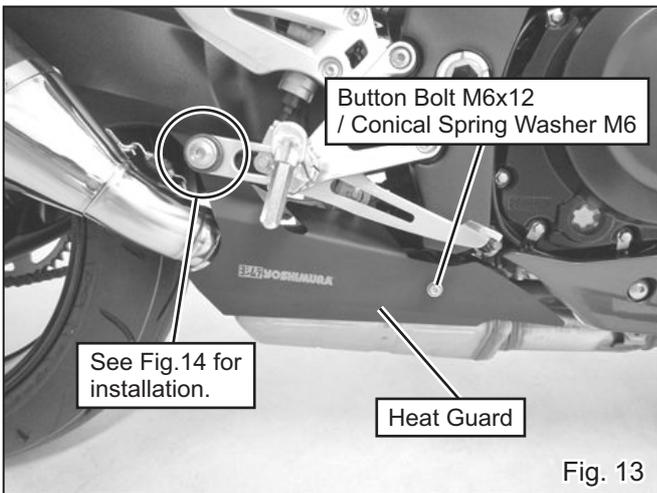

Fig. 13
- 11) Mount Heat Guard with Button Bolt M6x12, Conical Spring Washer M6, stock bolt, washer and nut removed at step 2) (See Fig. 13 & 14). Tighten and torque Button Bolt M6x12 and stock bolt in order.